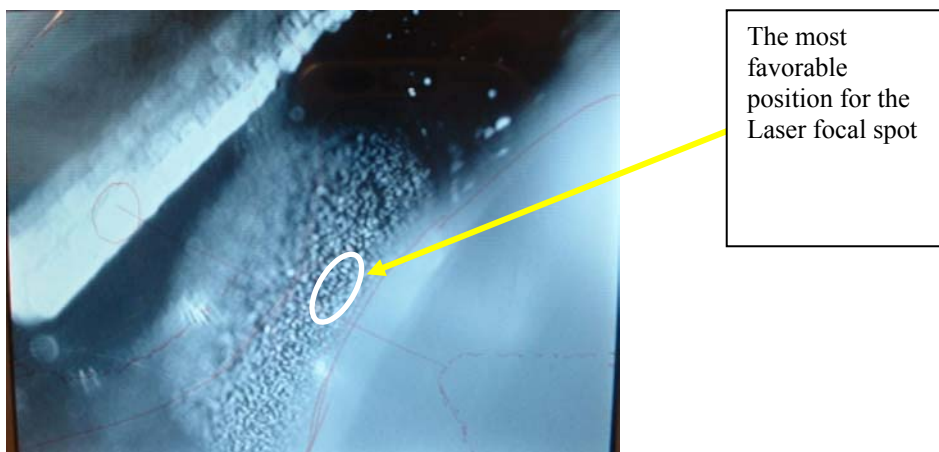
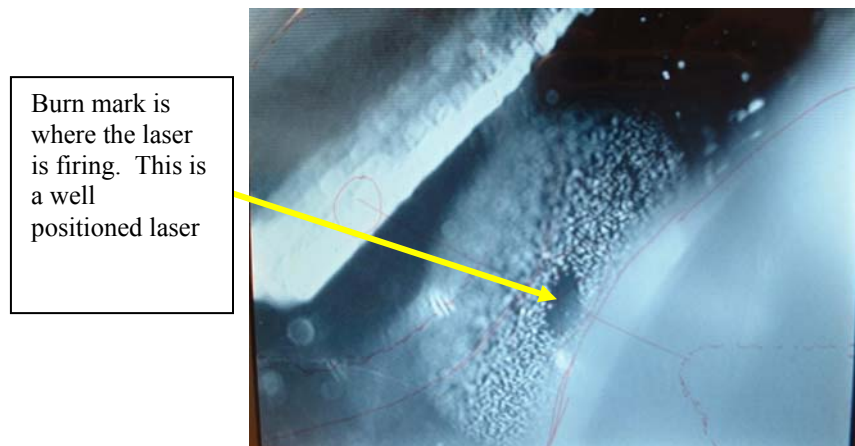

FIG. 55 Picture on the TV screen with the sample spot centered. The obstruction of a portion of the sample by the image of the Heating Gas Cone is correct.
FIG. 58. Well positioned laser focus.
By comparing Figures 55, and 56 we can see that the laser focus is close to its ideal position, but slightly to the right and up. The deviation of the focal point will likely produce ion signal, however, fine tuning can be attempted to improve sensitivity.
Step 3. Move the target plate to a fresh spot, like in Step 1 (Fig. 55). Switch ON the laser at maximum power (minimum attenuation). Using a hexagonal screwdriver 3/32" turn the allen screws to try to improve the position (see Fig. 57).
FIG. 57 Adjustment of the laser focal position using external screws. Look at the CCD screen for the corresponding motion of the laser focal spot. Your objective is to move that spot as close as possible to its ideal position (see Fig. 55). For example, the position in Fig. 58 below is a good position.